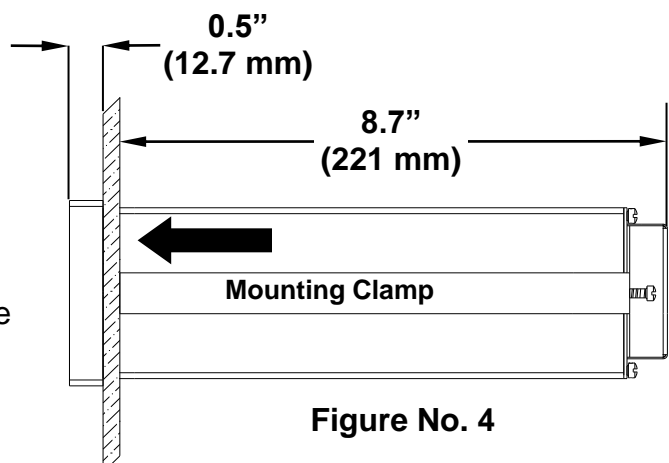

Figure No. 4
8. While supporting the weight of the indicator (to insure the bezel is flush against the panel), tighten the 2 screws to secure the indicator to the panel. See Figure No. 4.